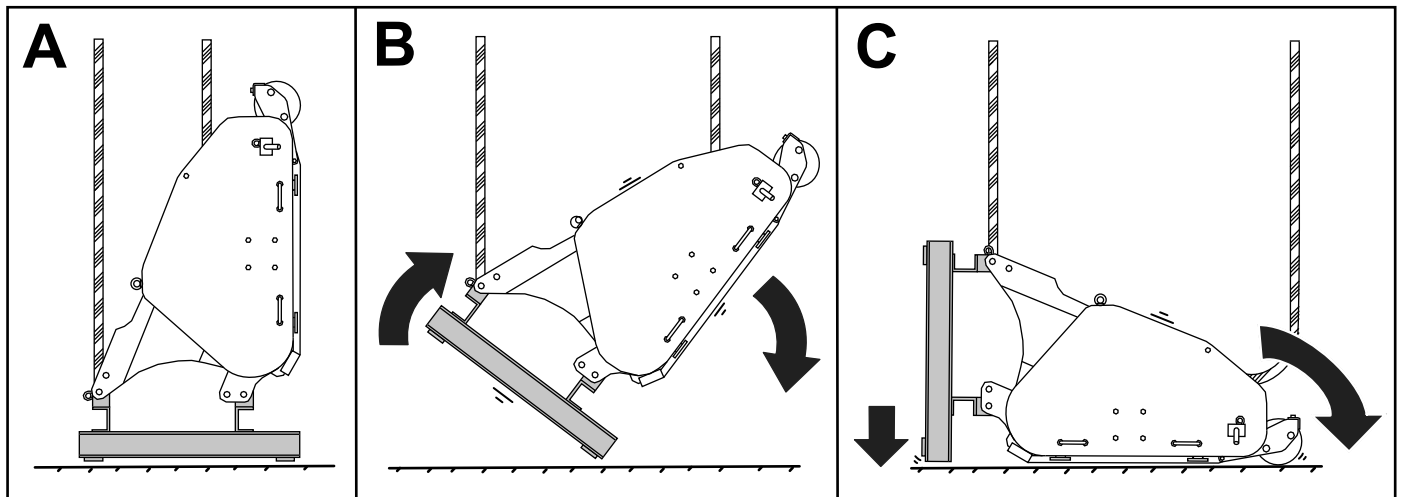

Figure 3
3. Gently lower the attachment in a controlled way as shown in Figure 3 until it is placed on the ground.